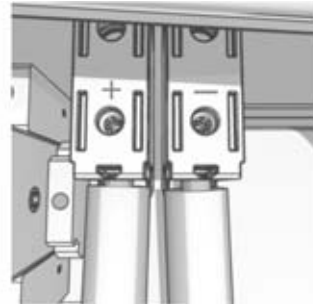

Figure 2.27 Connect to PV input
2. Connect the PV cables from the PV array junction box to the inverter. Ensure correct polarity, see figure 2.27.